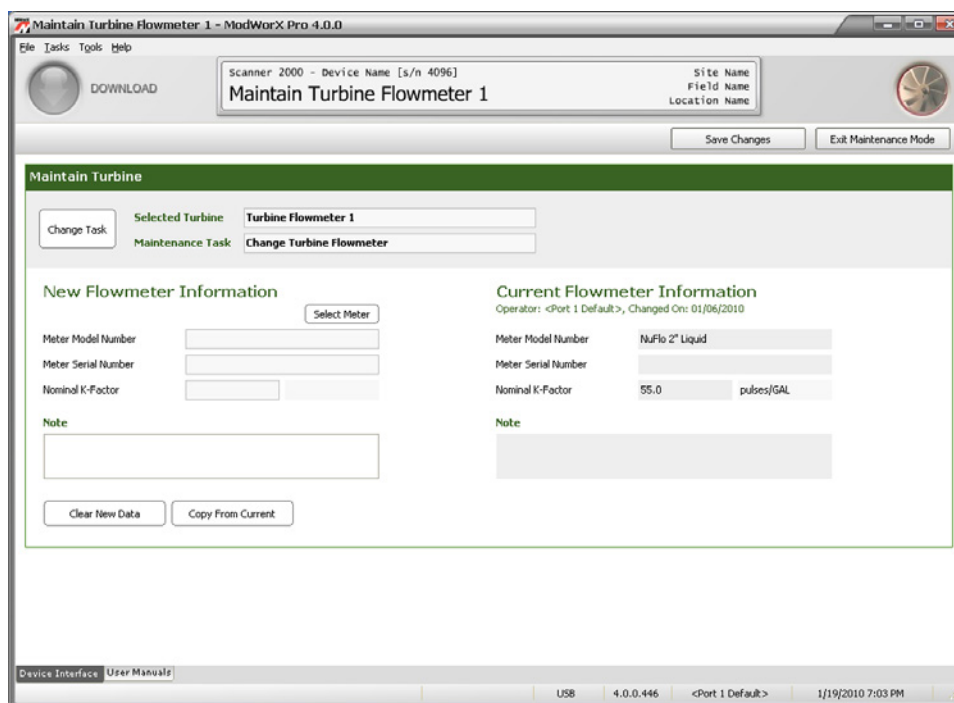

Figure 13.3
4. Select the maintenance task you want to perform, and click **OK** to save your selection. The Maintain Turbine screen will appear (Figure 13.3).